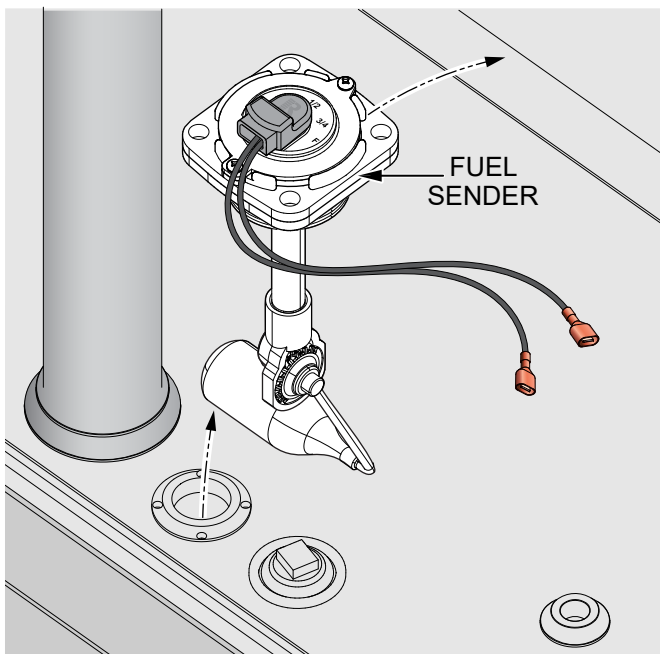

Figure 5. Remove Fuel Sender
5. Remove and discard the **fuel sender** (Figure 5).